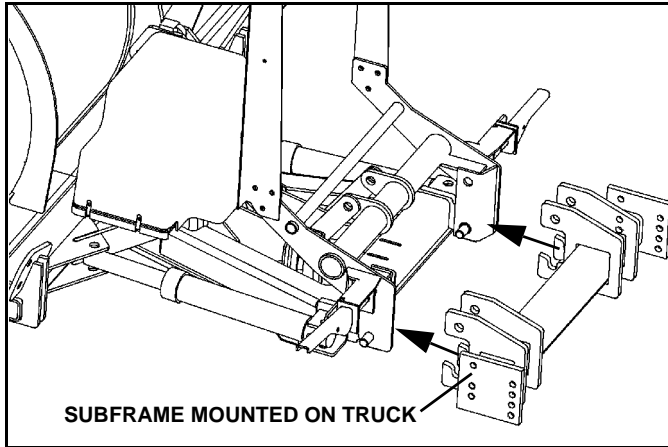

Figure 1-12
1. Drive truck into plow. Align light/lift bar frame inside of sub-frame lugs. Pins should fit inside slots cut into sub-frame lugs. (See Figure 1-12).